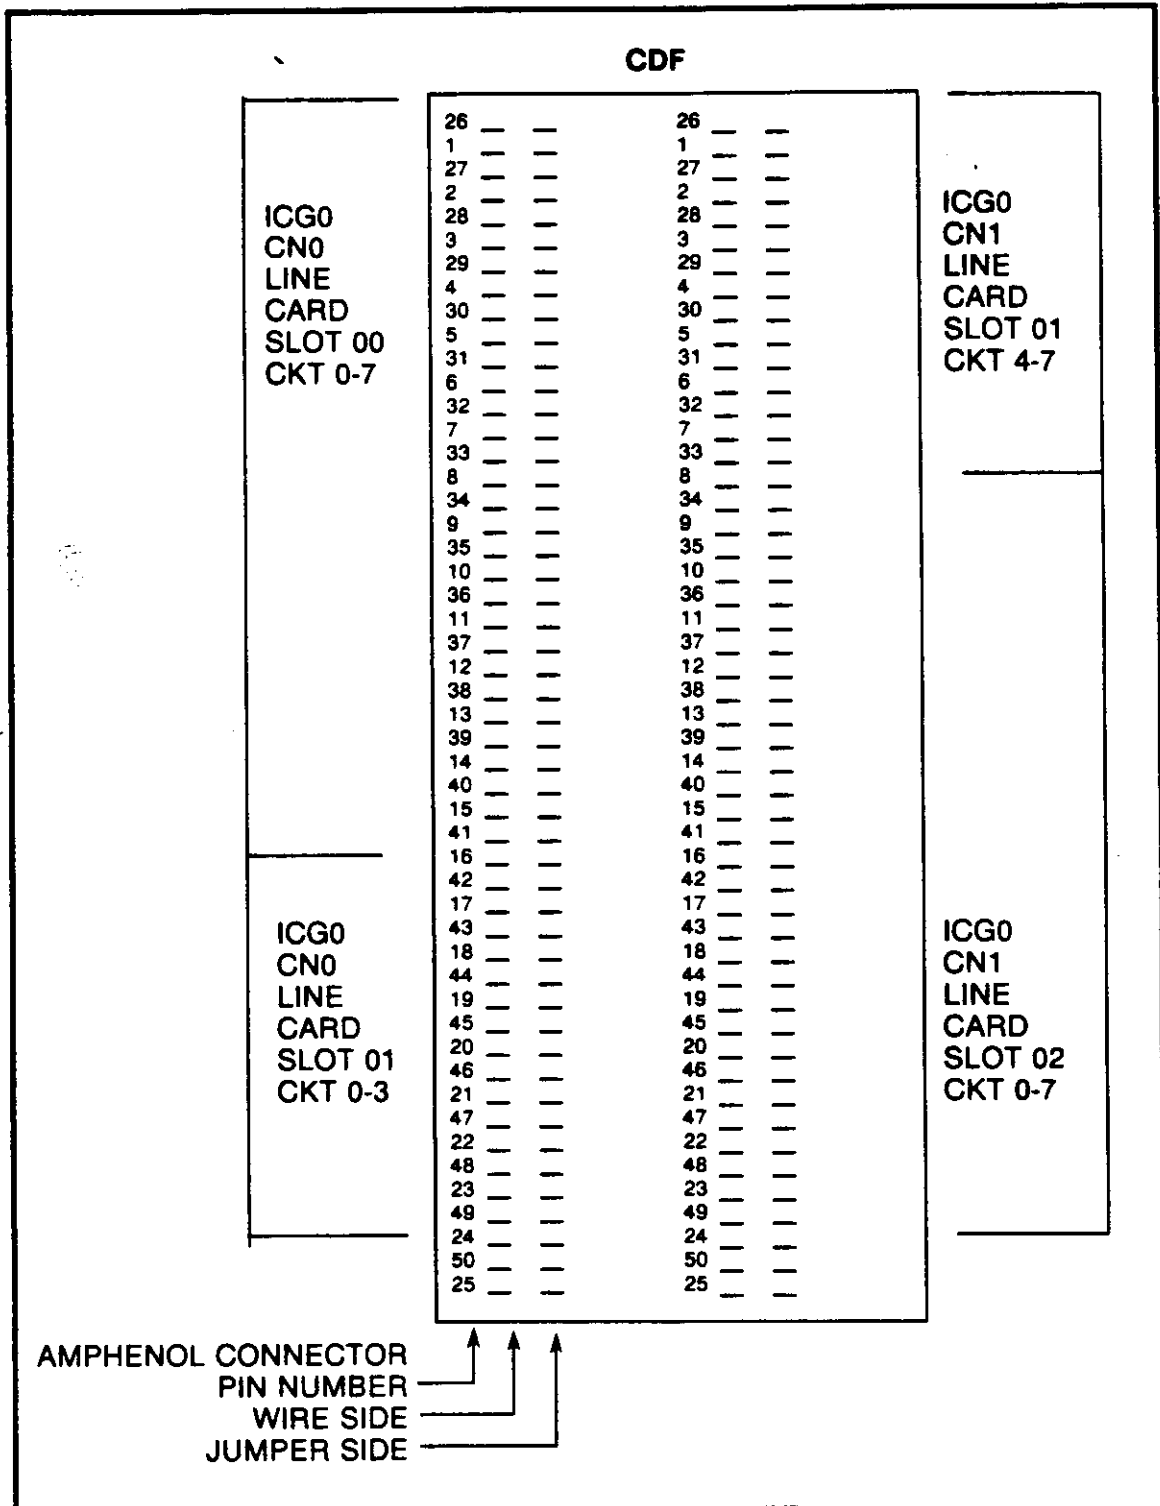

Figure 4.6 Typical CDF Terminal Block Connection for Line Card
4. Connect the CDF cable to the cabinet and label/run to the CDF. Terminal block information is provided in Figure 4.6.